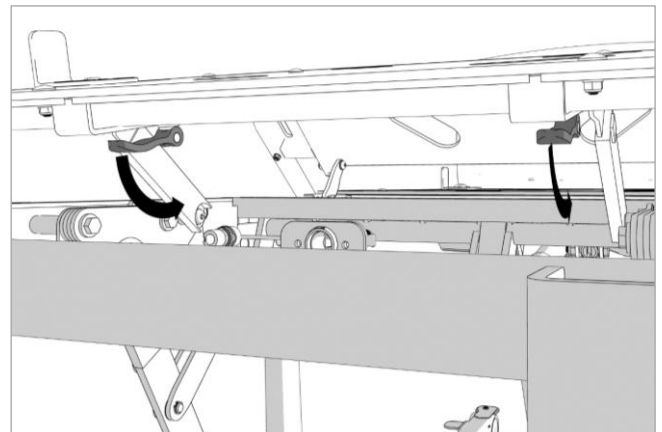
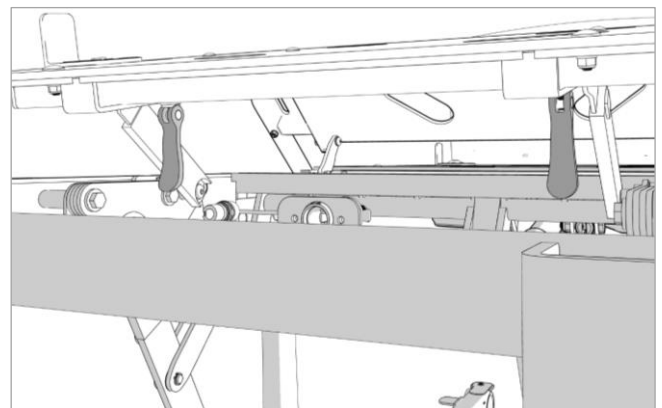

Figure 11.9
Figure 11.10
4. Rotate the Legrest platform locking levers towards the floor to unlock the Legrest mattress platform length adjustment as in Figure 11.9 and Figure 11.10.